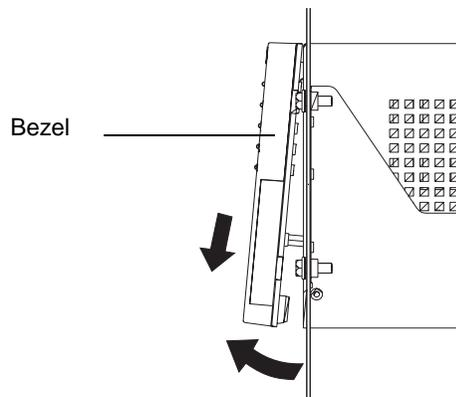

Figure 6. Removing the controller unit bezel
To access the controllers, battery, controller fan, and indicator lights, you must remove the controller unit bezel, as shown in Figure 6.
- 1 To view the indicator lights, remove the controller unit bezel, as shown in Figure 6 on page 11.